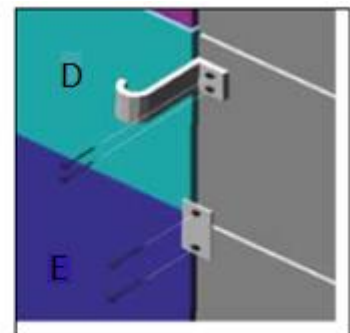

Fig.3
6. Fix safety ties or stopper profiles (Figure 3) at both ends of panel D to make sure that when panel B is removed, the inner surface of panel D would be around 5 cm away from the wall surface. Length of the tie or profile = panel width + 15 cm. Remove fixation screws from the panel D.
11. Take of the gripping mechanism from the new panel (C).